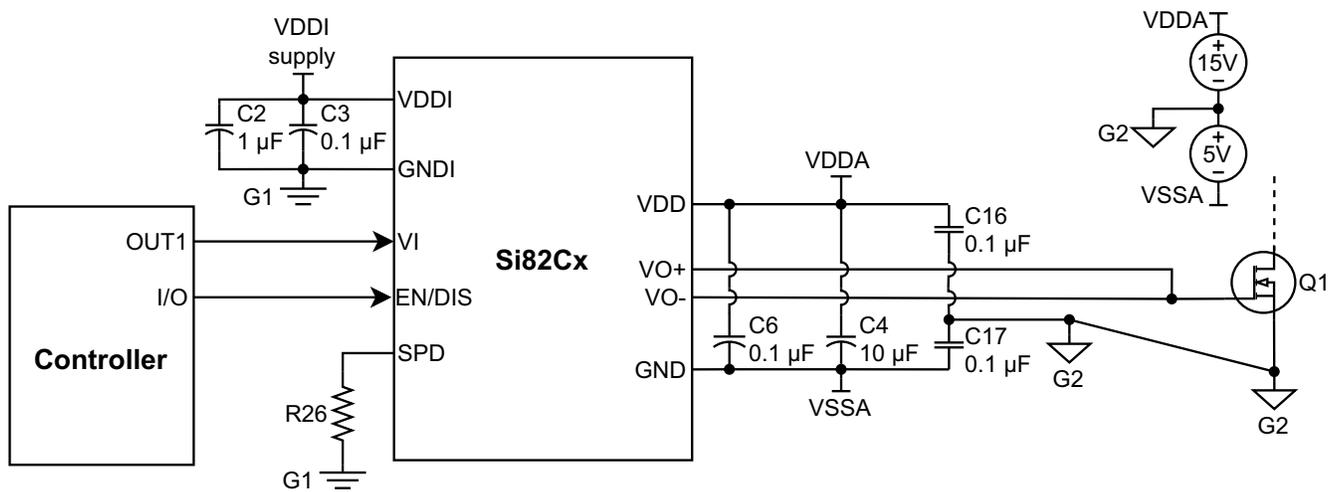

Figure 16. Si82Cx Bipolar Output Connection
The diagram shown in Figure 16, “Si82Cx Bipolar Output Connection,” on page 18 is similar to the above circuit except that the drivers produce the bipolar  $V_{GS}$  output voltage. The bipolar  $V_{GS}$  output requires the system to provide positive and negative voltage sources. Please note that the bootstrap circuit cannot be used to share the low-side voltage sources with the high-side gate driver for a bipolar  $V_{GS}$  output application. In this example, +15 V and -5 V sources are used. The voltage sources' reference G2 is electrically connected to FET Q1's source.
- If the system is designed to provide a bipolar  $V_{\text{GS}}$  output, additional bypass capacitors (C16 and C17 in Figure 16, “Si82Cx Bipolar Output Connection,” on page 18) are required to minimize the return path length of the gate drive signals.